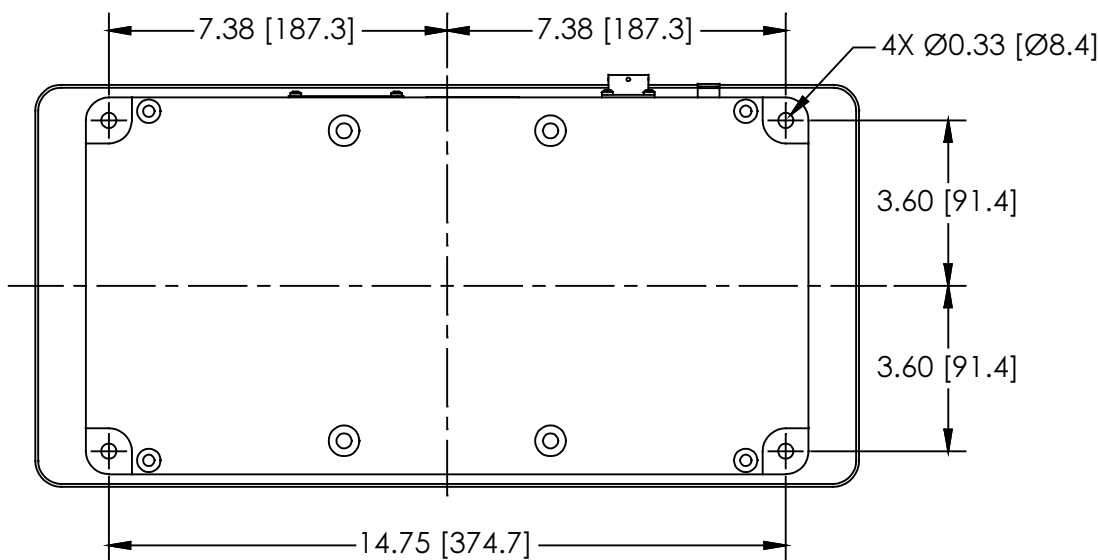

Figure 3. AFD80-3 Mounting Bracket hole locations
The AFD80-3 is designed for mounting on a stationary fixture. It has (4) four $\varnothing 0.33$ " ($\varnothing 8.4$ mm) mounting holes spaced as shown in Figure 3. The *AFD80-3* Table Top Mounting Bracket should not be modified without first consulting *PushCorp, Inc.*